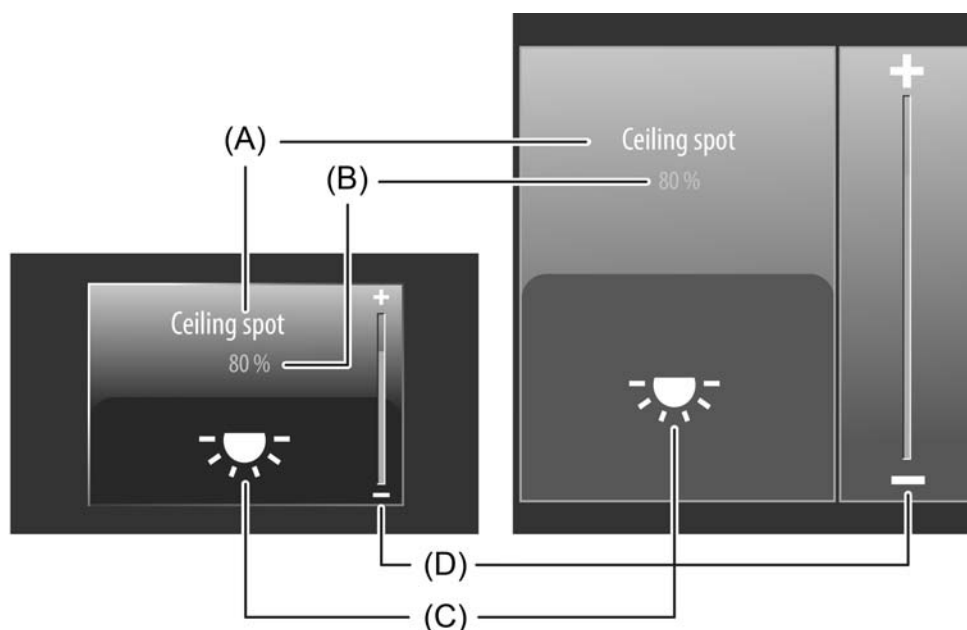

Figure 30: Example of an operating and display element of the channel function "switching" "dimming (Start/Stop)"
The display area contains different display elements (figure 30) that are influenced by ETS parameters. A name can be assigned to each KNX channel in the ETS (A). This text name is centred in the display element for display whereby controllable KNX functions are identified for the user (e.g. "ceiling spot"). In addition, a status value (B) can be displayed below the name, which displays brightness values in plain text ("0...100 %") depending on the object value of the dimming value feedback of the dimmer actuator addressed. After a device reset, the display shows "---%" until a feedback object value of the status text is received.